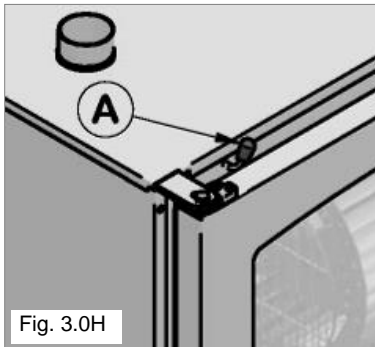

Fig. 3.0H
**3.0H Oven relief valve (Optional):** (Optional) its job is to adjust humidity inside the cooking chamber. The valve is manually activated acting on the knob (A) (Fig.3.0H) on top of the door.